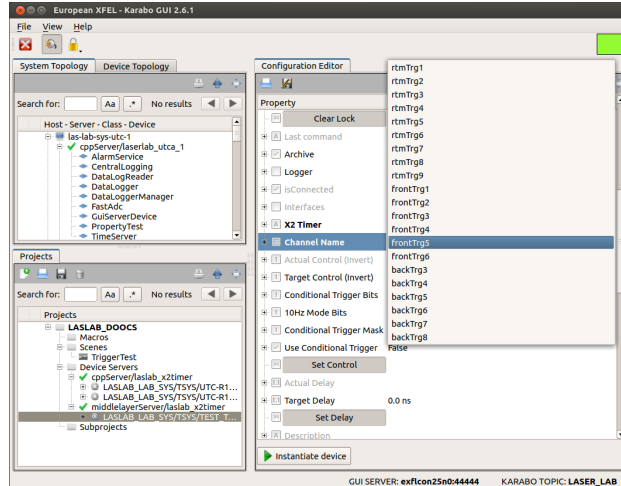

Fig. 2.2: The trigger can be chosen using an available drop-down list.
- **Channel Name**: The trigger in the μ TCA crate, which we want to use. The trigger can be selected from the available triggers using a predefined drop-down list, Fig. 2.2.